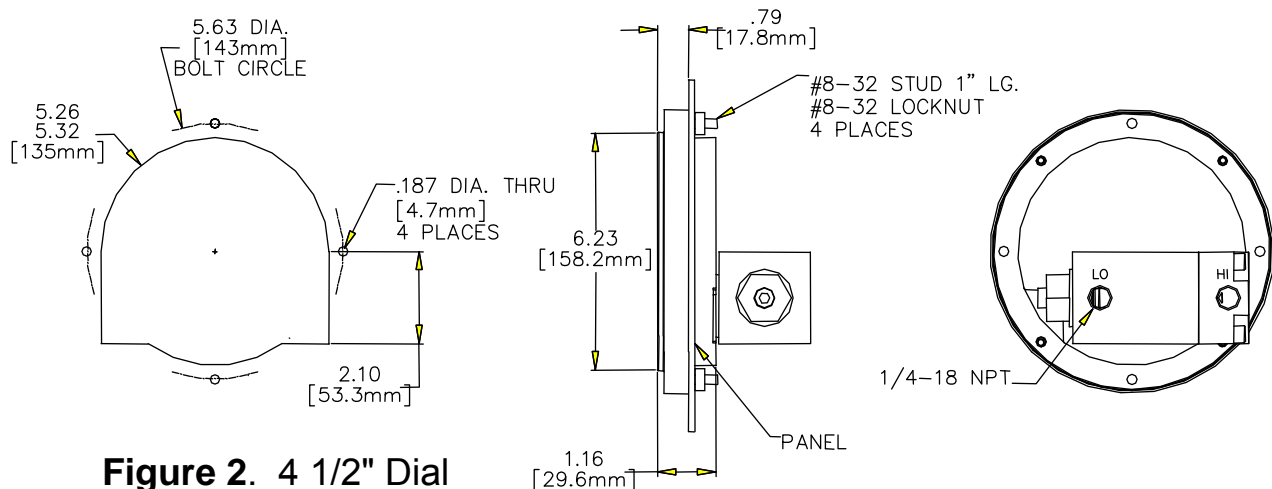

Figure 2. 4 1/2" Dial
Gauges with 4-½" dial should be mounted from the **front** of the panel. Make the cutout as indicated in (Fig. 2). Insert the (4) panel mounting studs, finger tight, into the metal inserts located in the rear of the bezel. Insert the gauge through the panel, aligning the panel mounting studs with the holes in the panel. Install the (4) #8-32 nuts onto the studs and tighten securely.